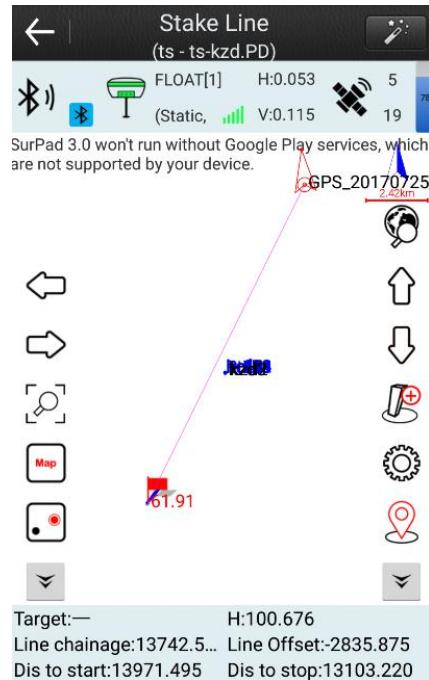

Figure 5-16
2. Select the Stakeout line, and click "OK" to enter the Stakeout line interface, the green flag indicates the start point, the red flag indicates the end point, the circle indicates the current point, and the arrow indicates the moving direction of the RTK. Please refer to Figure 5-16.